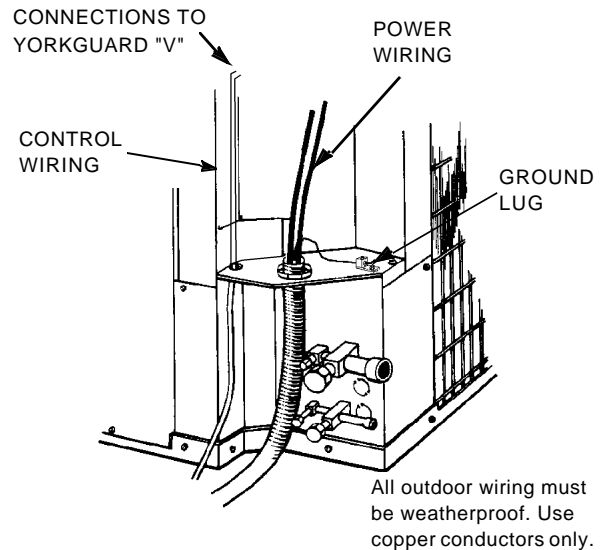

FIGURE 6 : TYPICAL FIELD WIRING
3. Remove the control box cover to gain access to the unit wiring. Route wires from disconnect through power wiring opening provided and into the unit control box as shown in Figure 6.